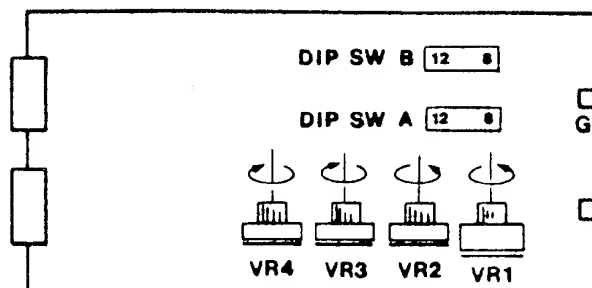

Fig. 9
8. Adjustments on Game PCB (See Fig. 9 and Table 1-5)